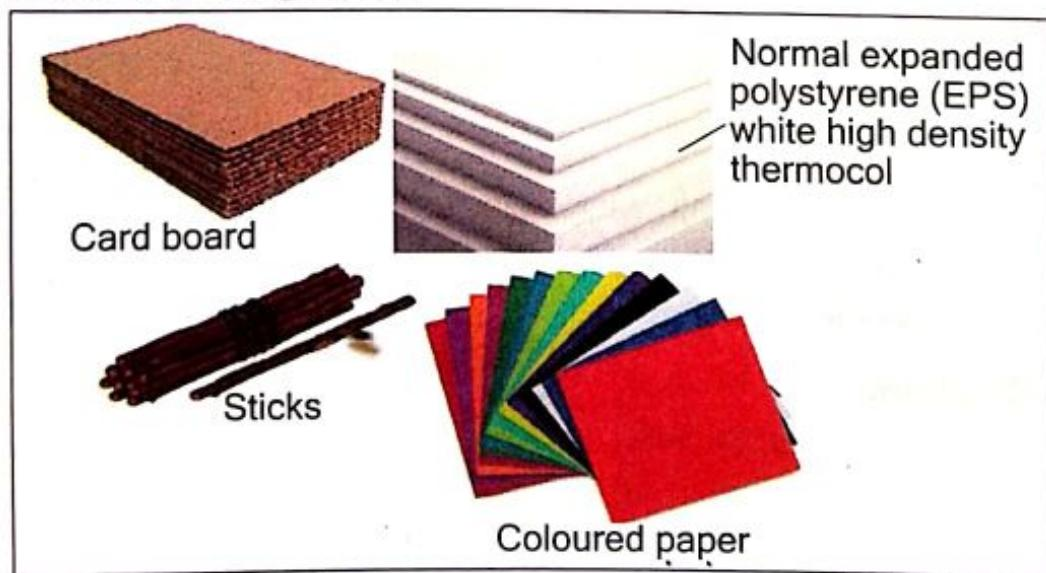

Fig. 2.3: Materials for modelling blast furnace
- Some examples of materials that can be used to build a model of a blast furnace as shown in Figure 2.3.